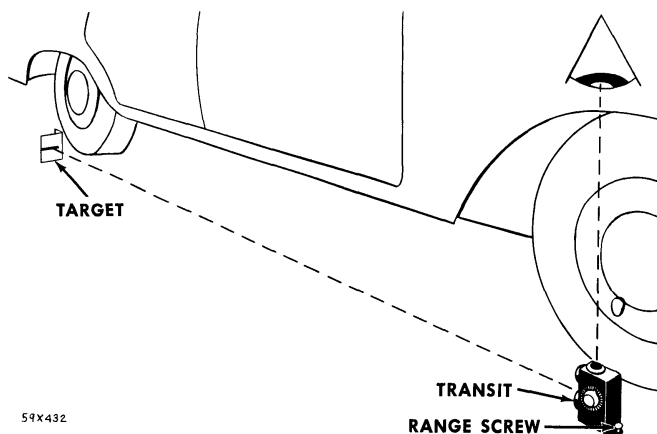

Figure 4—Determining slope of floor
**Determining Slope of Floor**—Place transit on floor in line with vertical centerline of the right front wheel. Place split image target in like position at right rear wheel, see Figure 4. Adjust range screw, on transit until target split image coincides or merges into one unbroken line.